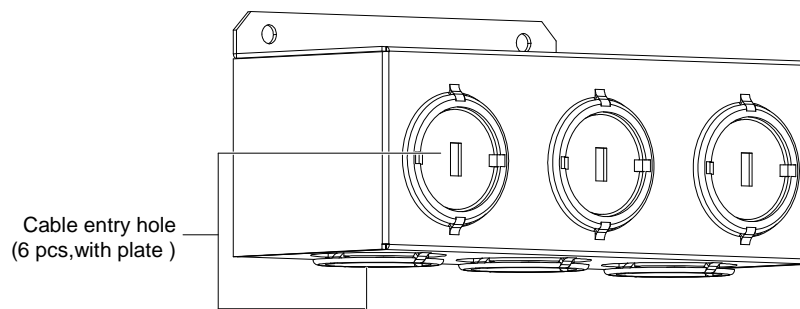

Figure 2-23 Protective cover B of the I/O terminal block
3. Take out the battery cable A from the UPS accessories, connect the red, black and yellow terminal of one end of the battery cable A to the corresponding terminal of the battery port on the rear panel of the UPS, and connect the other end of the battery cable A to one of the battery ports of the battery module, as shown in Figure 2-23.